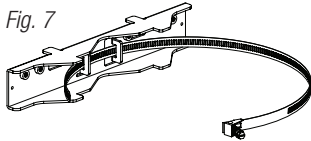

Fig. 7
1. Thread one (1) wormgear quick release strap through the slots on the back of a mounting bracket (Fig. 7, pg. 11).